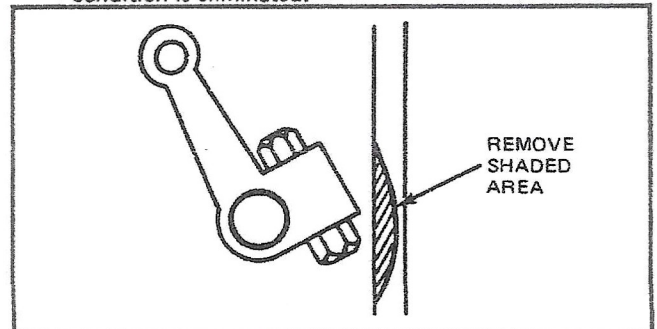

Fig. 18 - Article 90
- A. The pinch bolt used to retain the clutch release lever to the cross shaft may touch the transmission case at the limit of its travel. Where this condition is encountered, the transmission case flange should be relieved slightly (See Fig. 18) until the interference condition is eliminated.